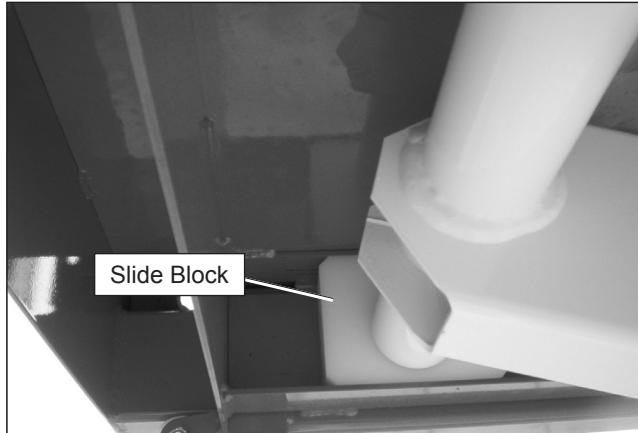

Figure 8.15 – Front of Platform
2. Raise the platform from the lower controls and visually inspect the slide blocks underneath the front of the platform (refer to Figure 8.15). There is one slide block on each side of the platform. The slide blocks must be in good condition and free to move without obstruction.